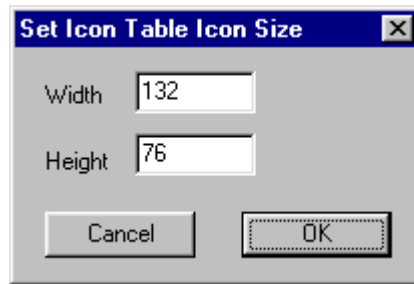

Figure 13.7 – Set Bitmap Icon Size
6. Click edit table and the size of the bitmap icon is displayed (Fig 13.7). The size of the bitmap icon can be changed now.